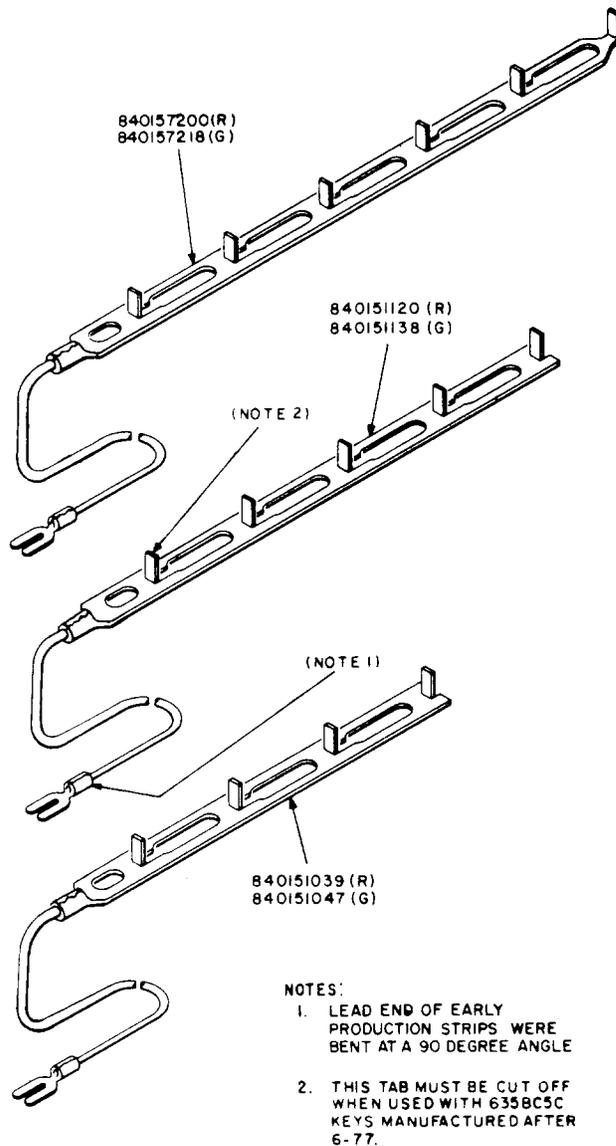

Fig. 9—Contact Strip Used With 635-Type Keys
(1) If required, install proper contact strips furnished with 635-type keys (Fig. 9).